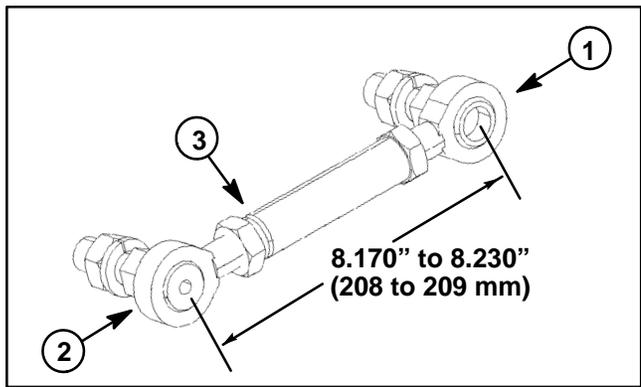

Figure 31
1. If upper links were disassembled, note that link has a groove on the end that has left hand threads. Install rod ends equally to make link assembly from 8.170" to 8.230" (208 to 209 mm) long (rod center to rod center) (Fig. 31). Also, align rod ends before tightening jam nuts.
5. Position upper link assemblies to hitch frame and coring head frame. Make sure that link assemblies (Fig. 31) have the groove installed in the same direction. Secure upper link rod ends to machine with lock washer and hex nut.
B. Loosen lower nut on threaded rod to allow spring (item 2) to extend.
C. Remove compression spring tool threaded rod, washers and nuts from spring cups (item 1) and spring.